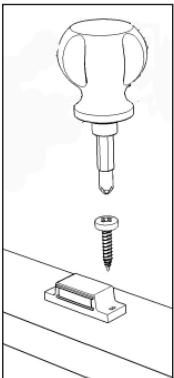

Figure 1
Attach Magnets to Top (B) at the pre-drilled holes of Top (B) with Wood Screws (for Magnet). (see Figure 1)